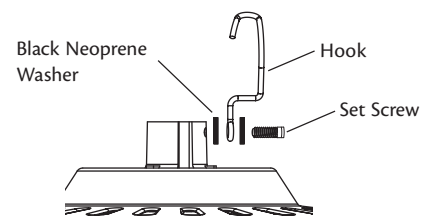

Figure 14 - Assembling the set screw for low profile assembly
- Put the included set screw through the two black neoprene washers and the hook as shown in Figure 14. Hook must be installed in same orientation as shown in Figure 14.
- Assemble the set screw to the adapter as shown in Figure 14.